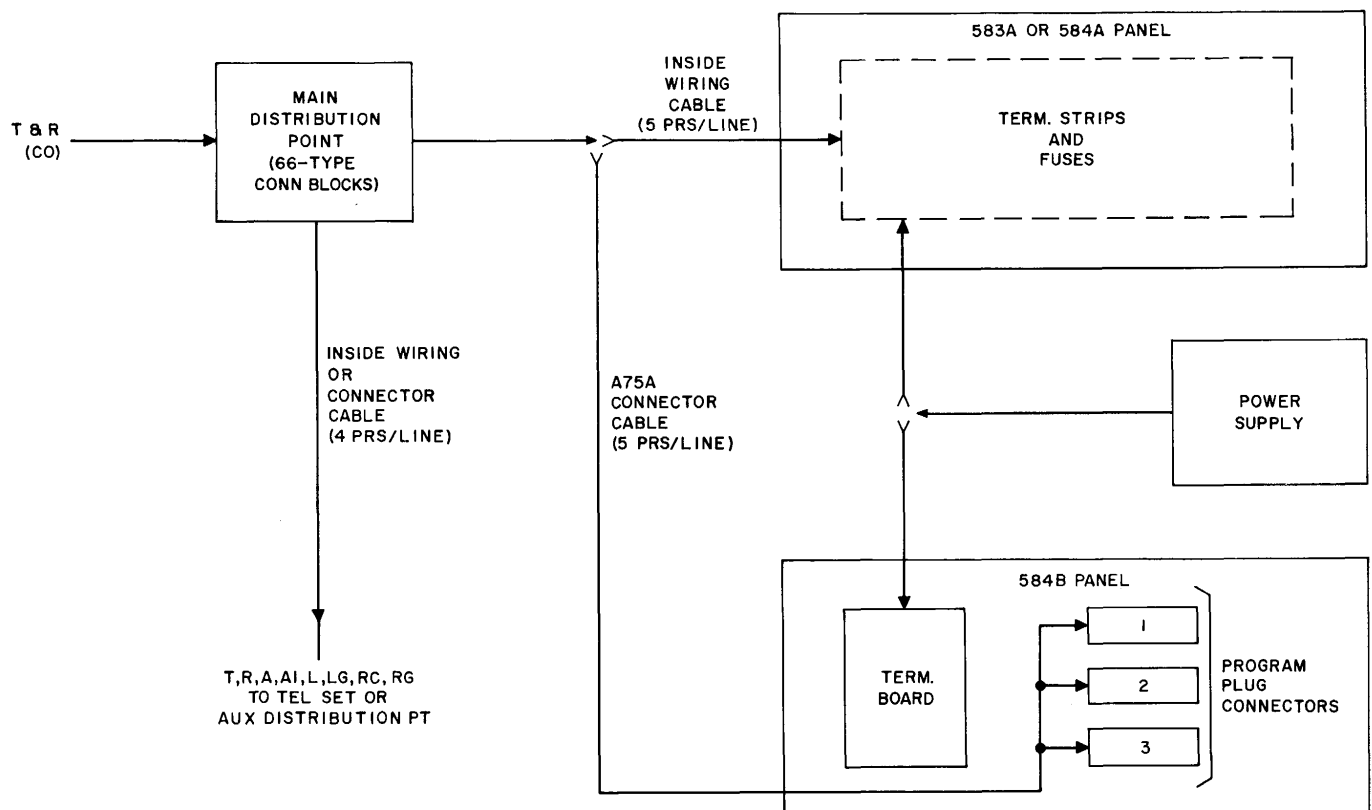

Fig. 4 — Layout of Typical Panel Installation
3.03 The number of cables that can be connected directly to the panels is limited (three on the 583A or 584A panel and one A-75 or three A-25 connector cables on the 584B panel); therefore, a master distribution point at large key system installations is generally required. Station cables can be terminated at this point or tie cables to auxiliary distribution points. The distribution point will also simplify cross-connections, additions, changes, or removal of lines or stations. See Fig. 4 for layout of a typical panel installation.